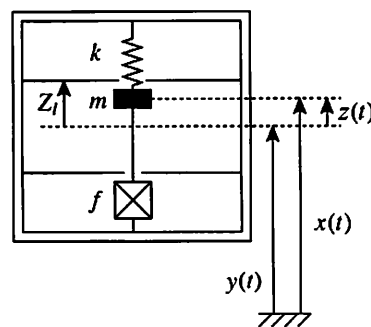

Figure 4.1 Motion-Driven Energy Harvester
- b) (i) Explain the difference between the two main categories of motion-driven energy harvester (one of which is shown in Figure 4.1) and how they might be applied in the human body. Discuss the advantages and disadvantages of each.
(ii) From first principles, show that the power generated by the inertial energy harvester drawn in Figure 4.1 can be written as: